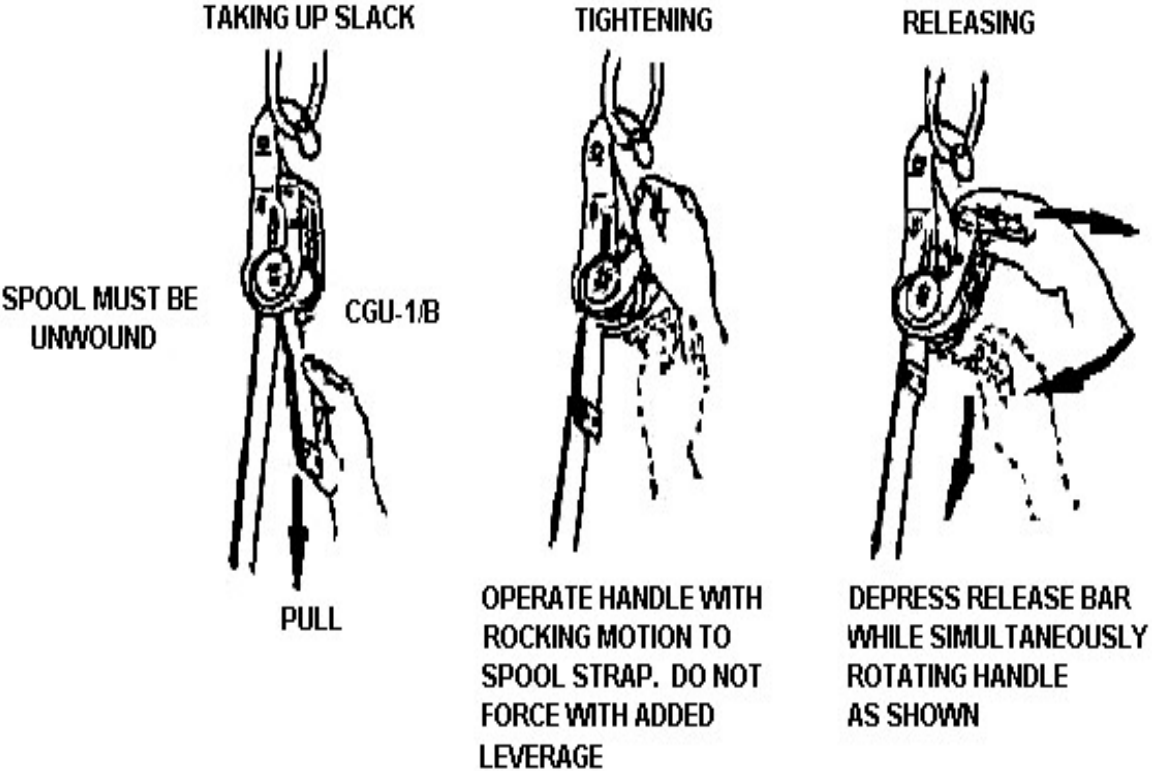

Figure 3-14
5. Install CGU-1/B tie-down devices (see Figure 3-14).